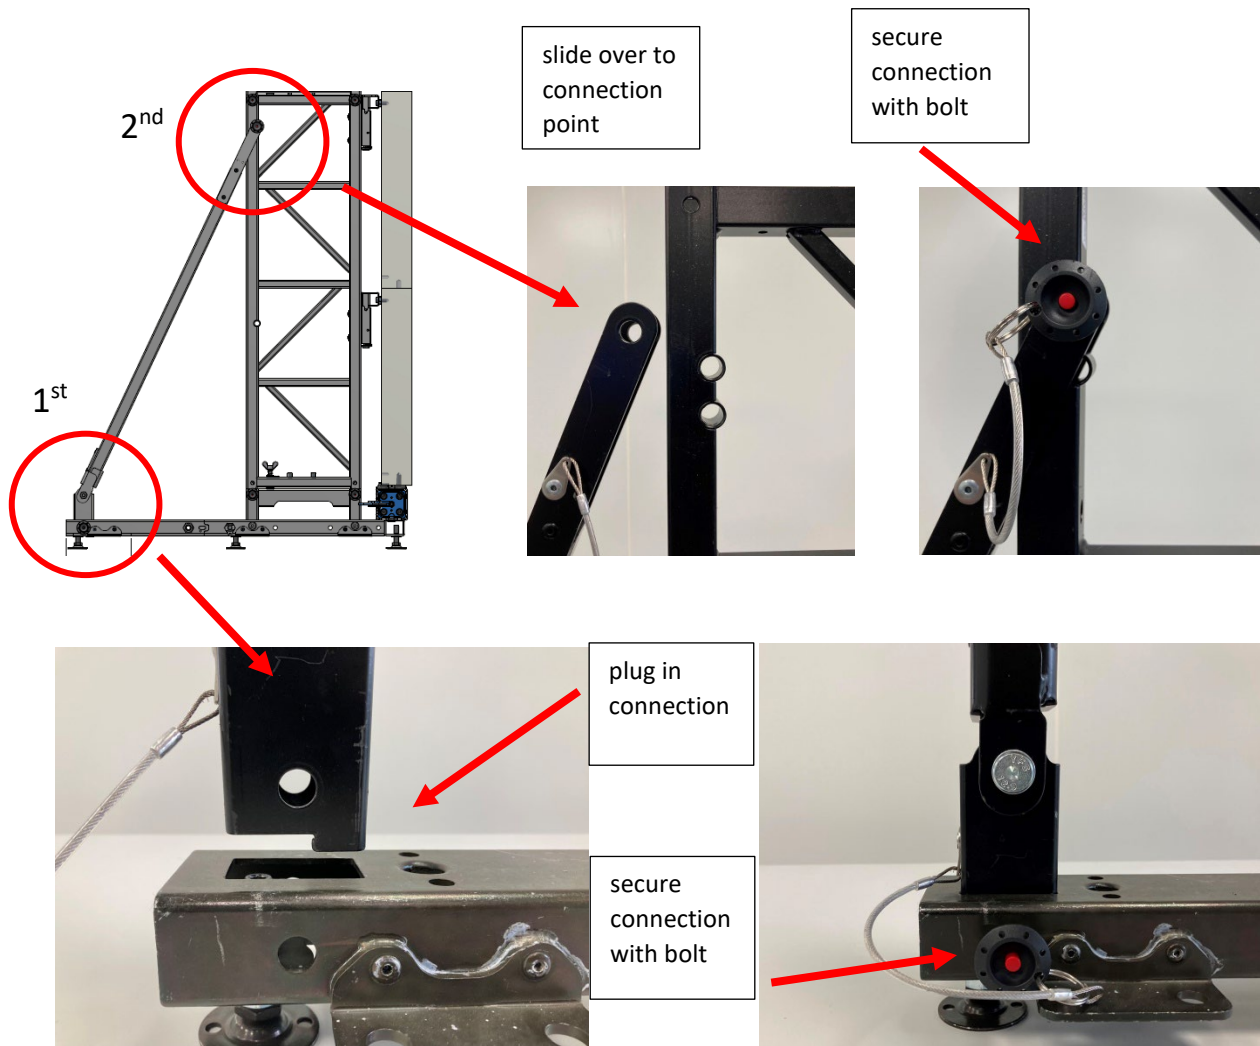

Figure 27 Assembling DIAGONAL to STACKER
Now fold the upper part of the DIAGONAL towards the STACKER until the fork opening slides over the stacker and can be secured with the mounted bolt. Make sure that the bolts are seated securely and accurately and are secured against loosening. Figure 27
Step 8: Proceed building the third and fourth row as known from the standard Stacking system. Mount the NoBase DIAGONAL when using Setup Variant 2 and as known from the standard Stacking and as can be seen in Figure 27.